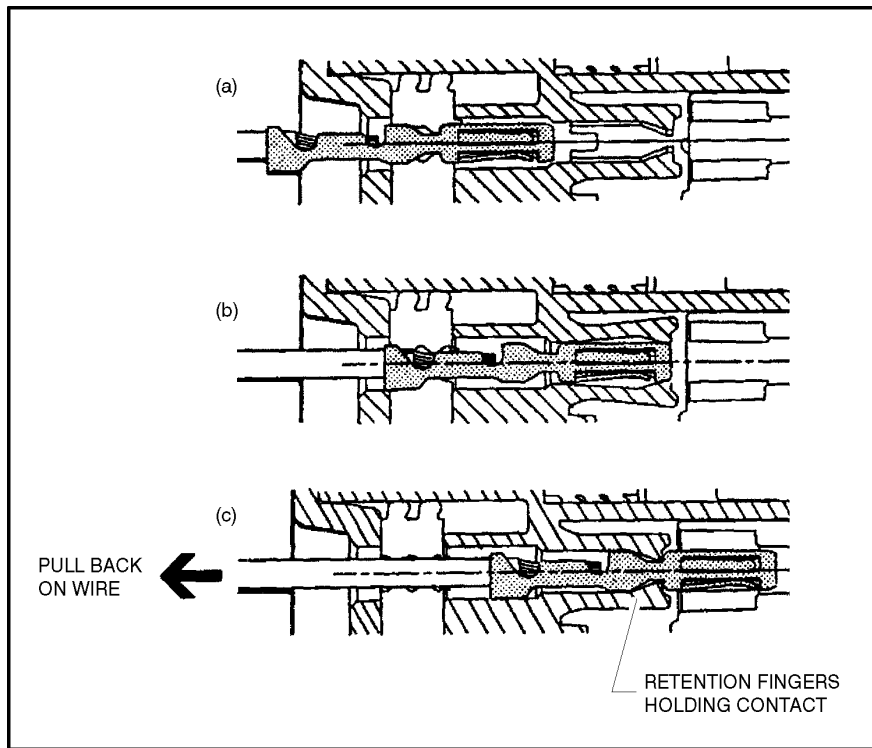

Figure 7-9. Connector Assembly Figure 2
1. To insert a contact, push it straight into the appropriate circuit cavity as far as it will go. (See Figure 7-9.).
2. Pull back on the contact wire with a force of 1 or 2 lbs. to be sure the retention fingers are holding the contact. (See Figure 7-9.).